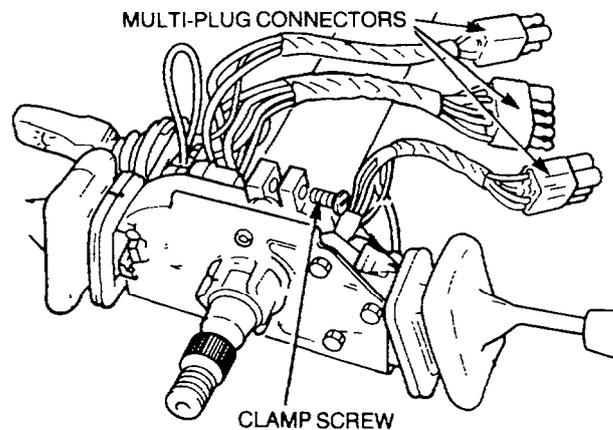

Figure 86 Switch Cluster
- j. Remove the clamp screw securing the switch cluster to the steering column (Figure 86).